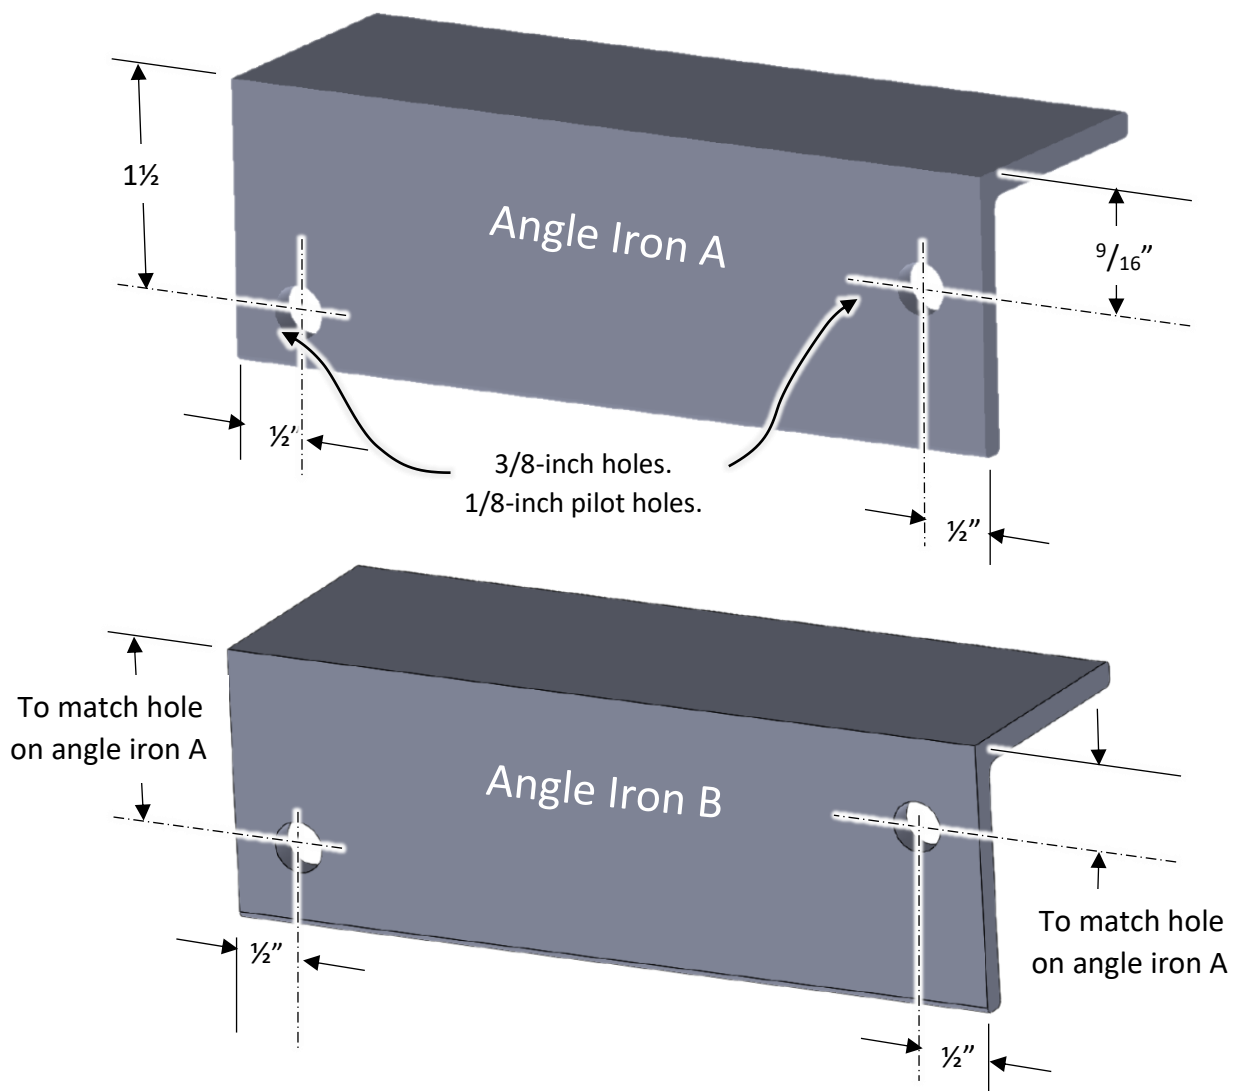

Figure 6. Details for marking and drilling holes in Angle Iron A and Angle Iron B
Your team has been provided two 6-inch pieces of 2" x 2" x $\frac{3}{16}$ " angle iron. It will be helpful to identify one piece as Angle Iron A and the other as Angle Iron B. Holes need to be drilled in these pieces so they can be fastened on the side of the skid steer bucket. Figure 6 illustrates the placement of these holes.
- a. Mark the holes on Angle Iron A as illustrated in Figure 6. Mark the holes in Angle Iron B so they line up with the holes in Angle Iron A when welded together.